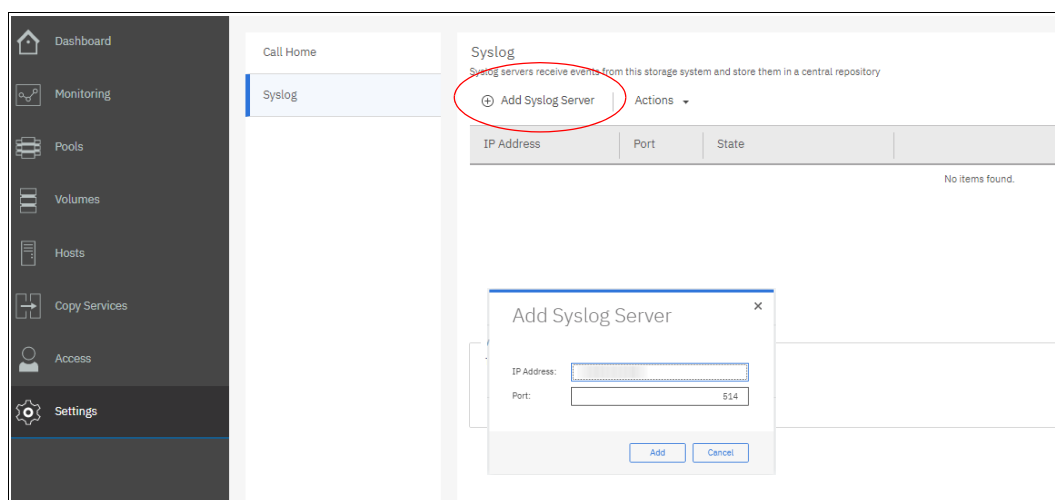

Figure 9-30 Syslog settings window
6. To add a syslog server, click **Add Syslog Server**, as shown in Figure 9-30, and provide the following parameters: